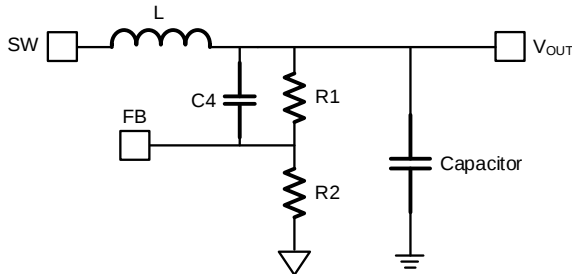

Figure 9: Simplified Circuit without External Ramp Compensation
The MP8639 does not require ramp compensation for applications where POSCAP or ceramic capacitors are used as C_{OUT}. V_{OUT} can then be set by the feedback (FB) resistors, R1 and R2 (see Figure 9).